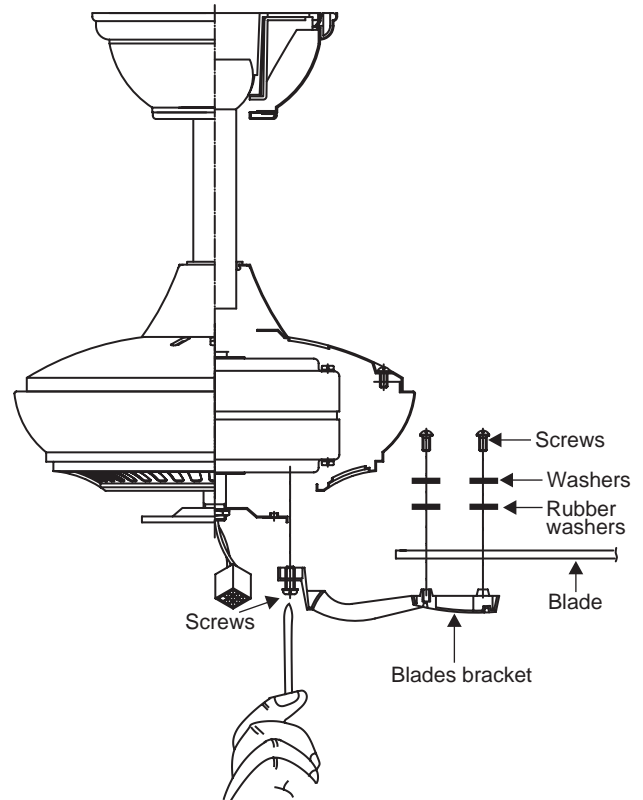

Fig. 20
Step 1 Attach the blade to the blade bracket using the screws, washers and rubber washers as shown in Fig. 20. Start screw into bracket. Repeat for the two remaining screws.